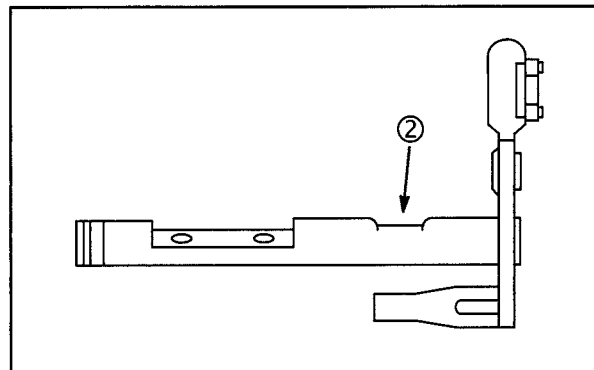

Fig. 22
2. Inspect throttle shaft and choke shaft for wear (2), **Fig. 22**.